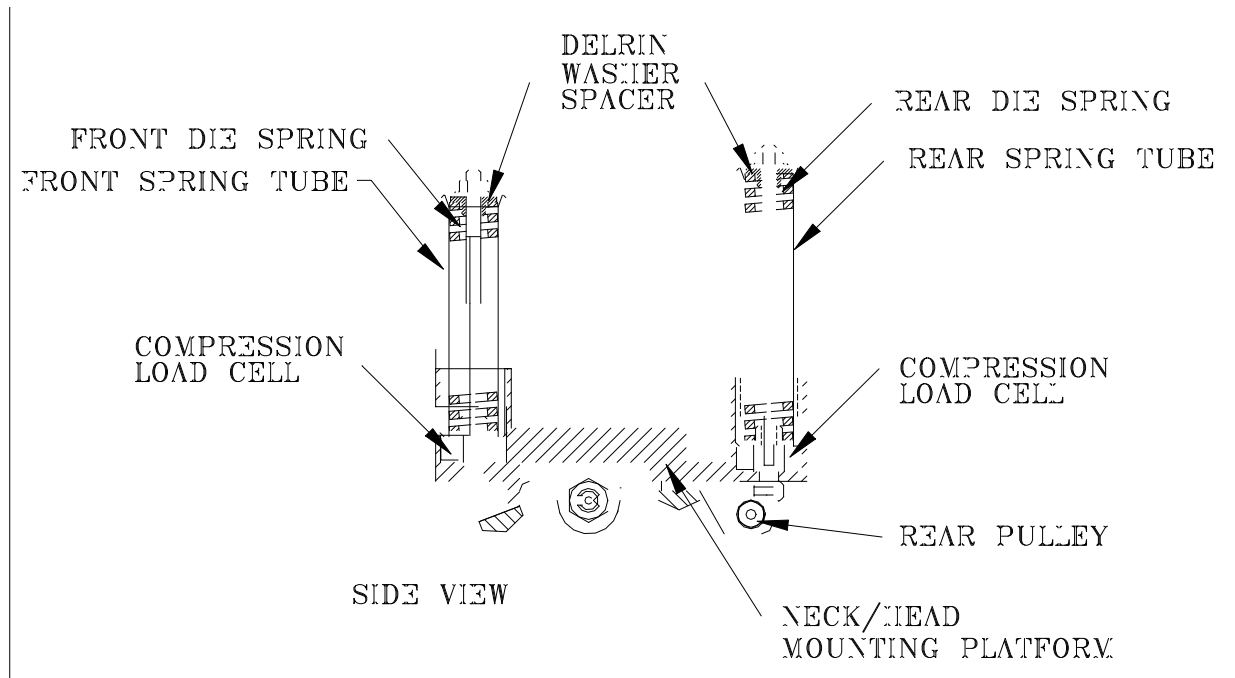

Figure 5.11- Location of springs and load cells
14. Install the Rear Neck Die Spring (Yellow, 168 lbs/in, 3.5" Length) into the Neck Rear Spring Tube (T1NKM211) with the Delrin Neck Spring Washer Spacer (T1NKM013) toward the top. **Figure 5.11** shows a drawing of the completed Neck / Head Mounting Platform Assembly.